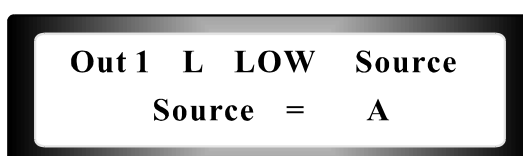

Figure 15
7. Input Source choice : Input source of each output channel choose menu ( As shown in Figure 15) , Circumgyrate 'GAIN' key, can choose anyone input channel (A,B or A+B) signal .